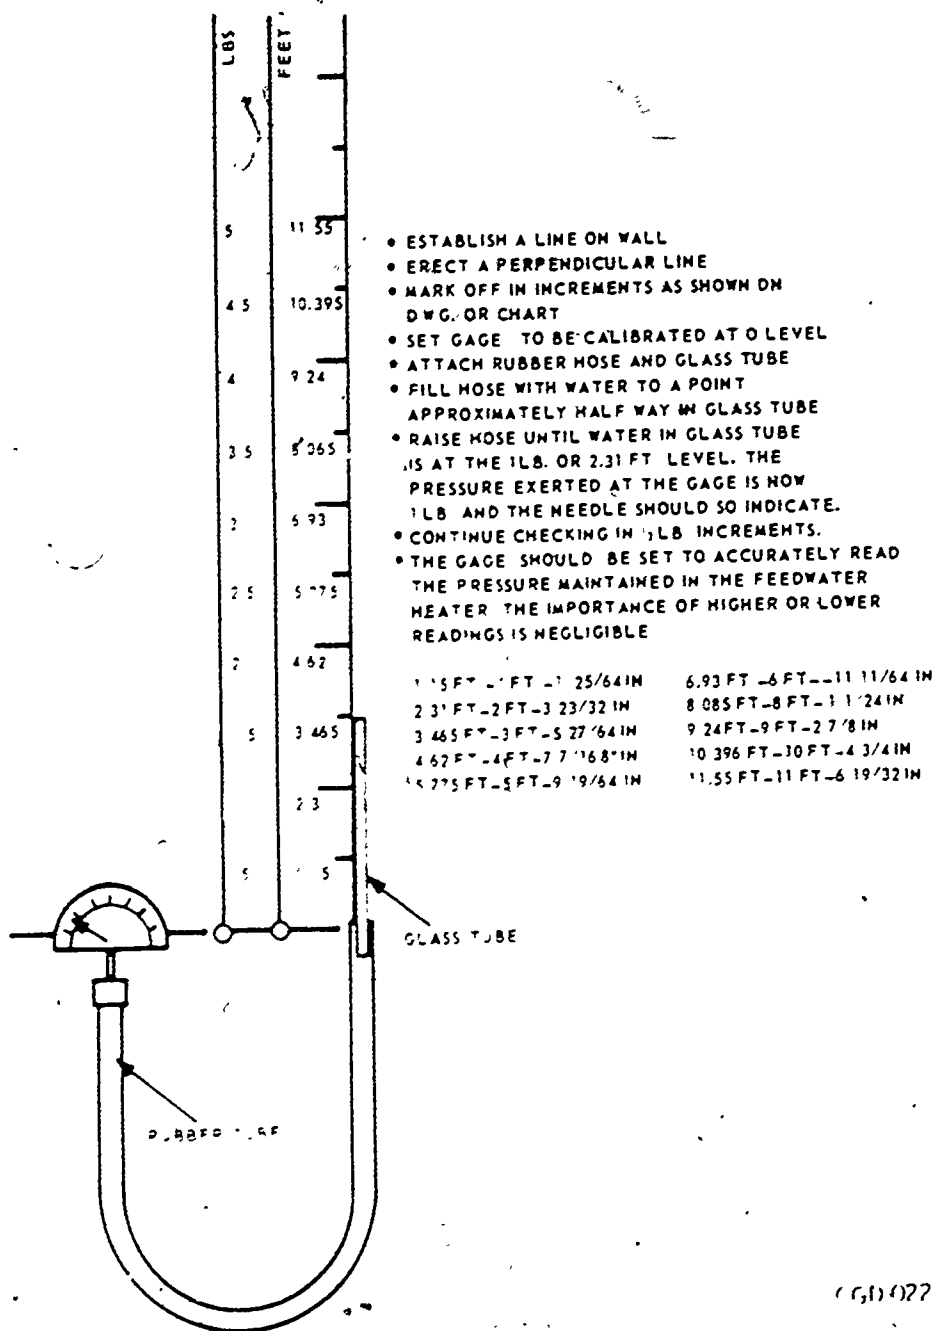

Figure 3-16. Testing low pressure gages with head of water.
a. Low pressure gages. Figure 3-16 shows how to test the low pressure gages normally used for feedwater heater service.